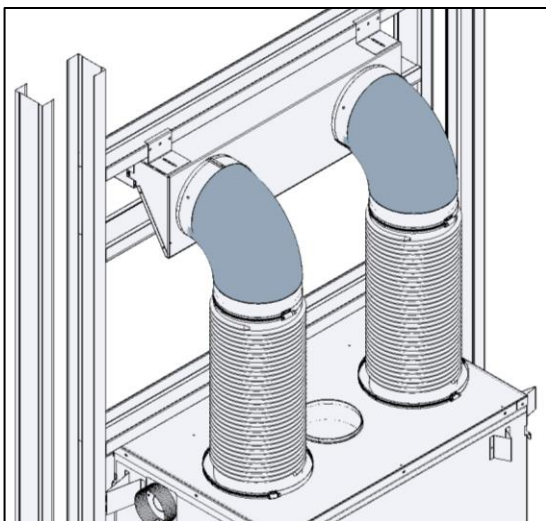

Figure 3-33: Installation of 90° Elbows onto Linear Duct/Louver Adapter
8. Connect the elbows to the linear duct/louver adapter and secure them with sheet metal screws (Figure 3-33).